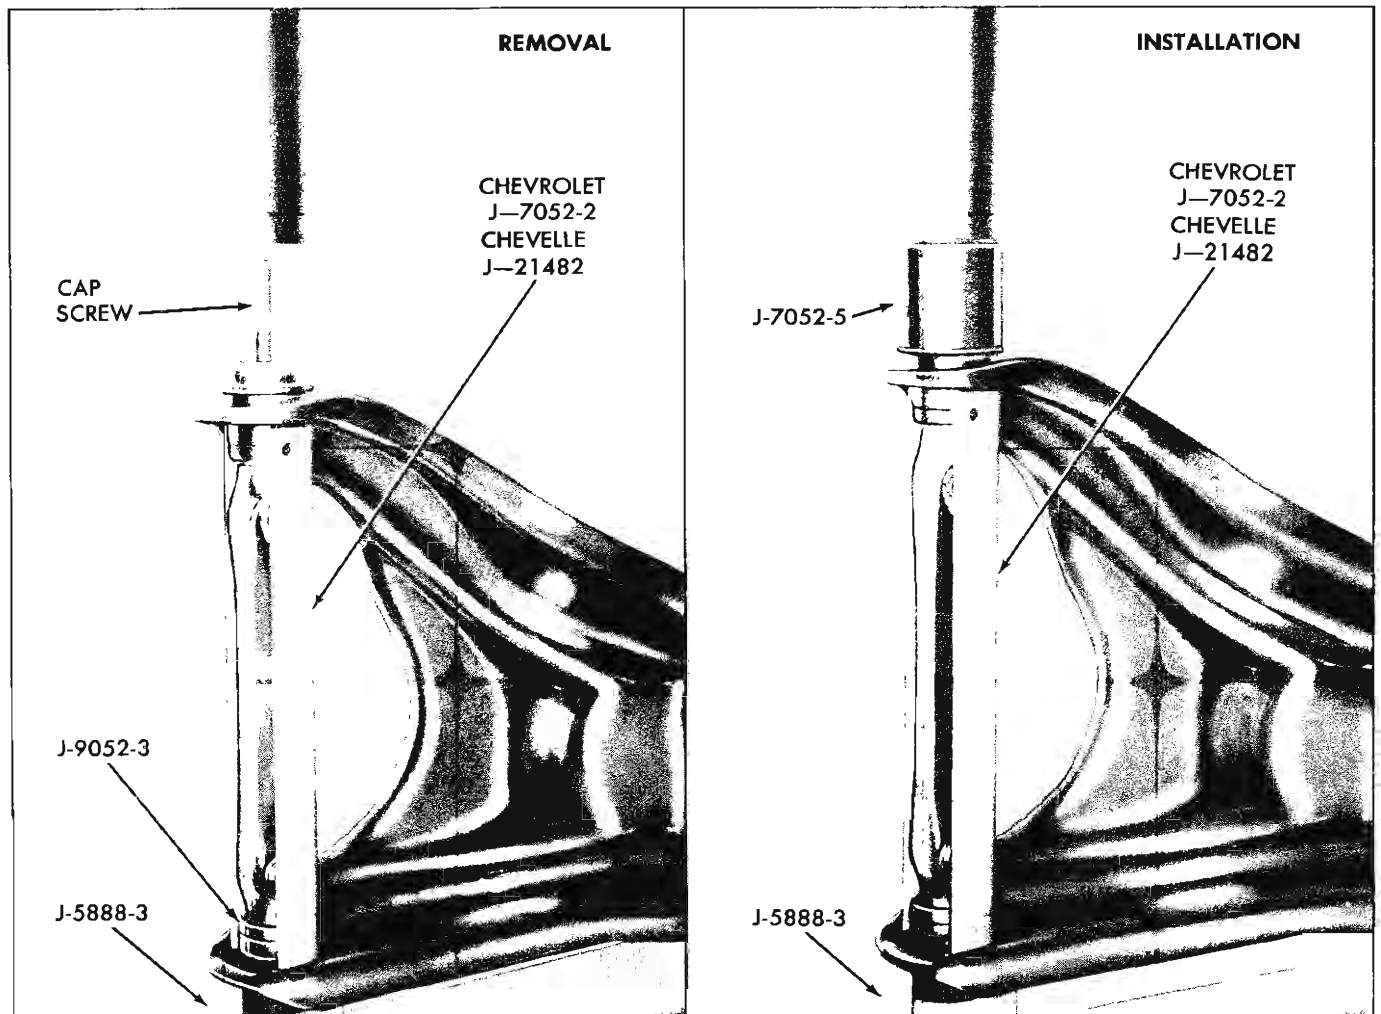

Fig. 42—Removal and Installation of Upper Control Arm Bushings—(Chevelle shown as typical)
3. Support control arm in an arbor press on Tool J-5888-3 as shown in Figure 42.
**NOTE:** If bushing rubber id deteriorated to the extent that the bushing sleeve cannot be pushed out, release the press, install J-9502-3 as shown in Figure 42 and press out the sleeve.
1. Install arm in arbor press with Tool J-7052-2 (Chevrolet) or J-21482 (Chevelle) in place and press in one bushing using J-7052-5 as shown while supported on Tool J-5888-3 as shown in Figure 42.